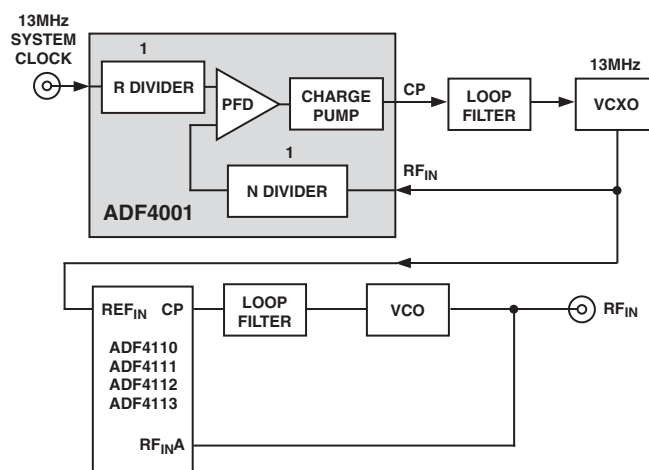

Figure 7. Low Jitter, Stable Clock Source for GSM Base Station Local Oscillator *cct*
Figure 7 shows the ADF4001 being used with a VCXO to produce an extremely stable, low jitter reference clock for a GSM base station Local Oscillator (LO).